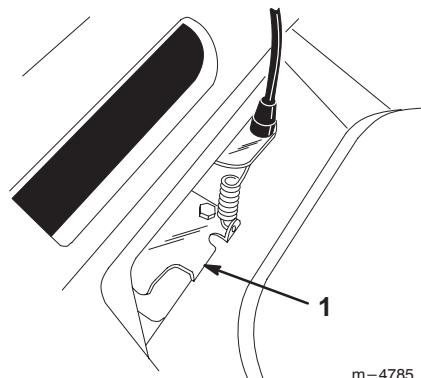

Figure 31
- Push the belt guide tab down until it contacts the lawn mower, then hold it in place (Fig. 31).
- Lift off the cover and brush out all the debris from the belt area (Fig. 31).